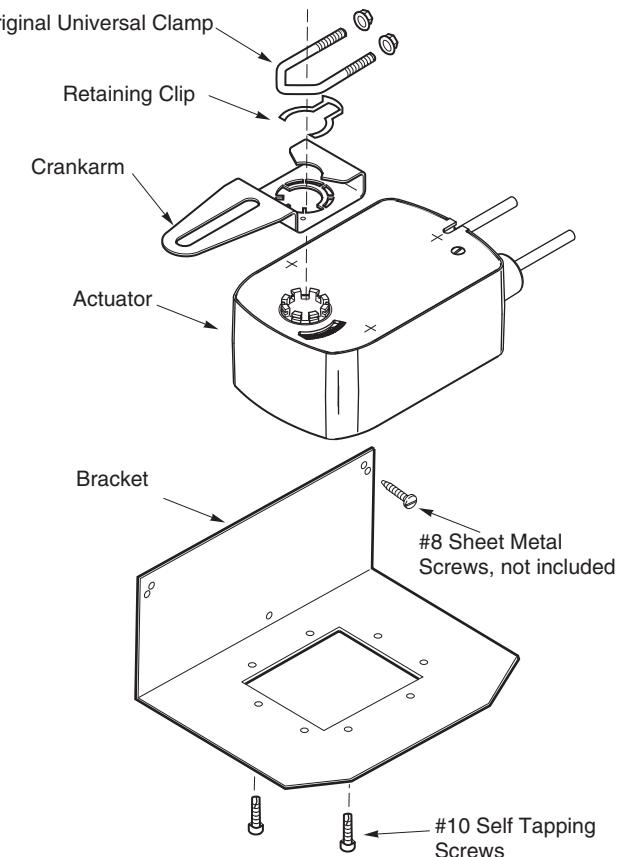

Figure-6 Mounting AM-715.
1. Locate the pre-drilled mounting holes on the actuator label that are covered by a white "+" sign. See Figure-6.
3. Use the #10 self-tapping screws to secure the bracket to the actuator, see Figure-6.
6. Secure the crankarm in place using the retaining clip provided. See Figure-6. Place the retaining clip inside the crankarm, making sure to align the retaining clip with the grooves on the actuator mounting. Push the retaining clip with finger pressure until it clicks into place.